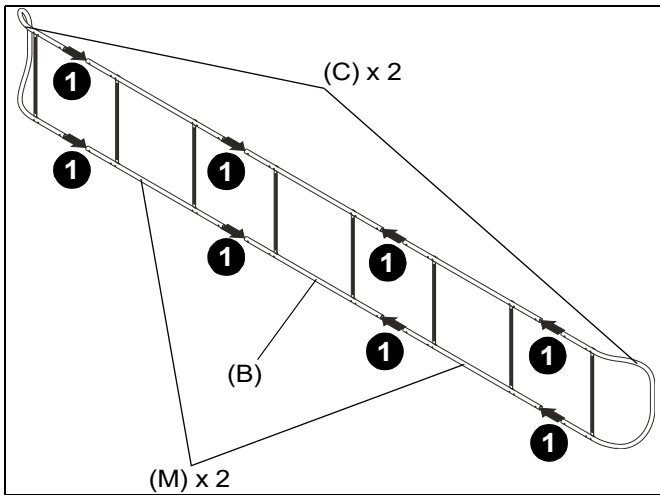

Figure 9
1. Slide together two outside frames (C), two extension frames (M) and center frame (B). (See Figure 9)